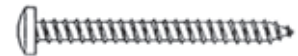

**Fig. 3**
3. If you wish to attach a top, attach the Short Top (F) or the Long Top (G) to the Mirror Frame (C) with four #8x1-1/4" Black Screws (K) as shown in Figure 3.